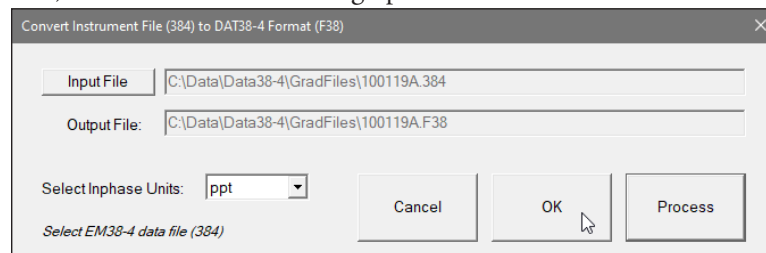

Figure 2.1 Convert EM38-4 Files to F38 Format dialog (Inphase units in ppt)
To convert 384 files select **Convert Files** in the program menu and then select one of two items: **Convert EM38-4 File (384) to File in DAT38-4 (F38) Format** or **Convert Multiple EM38-4 Files (384) to File in DAT38-4 (F38) Format**. The first item can be used to convert single data file (Figure 2.1) while in the second dialog up to 50 data files with extension 384 can be selected to